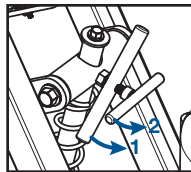
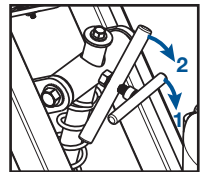

Figure 14
Figure 15
- The angle adjuster has an outer T-bolt for setting a desired blade angle, and an inner jam nut bar for locking the T-bolt in place. To change the blade angle, first loosen the jam nut bar, then loosen the T-bolt (Figure 14). Once these fasteners are loosened, the spring causes the machine to rise up. Keep a hand on the extendable handle to control the rising motion. Press down on the handle to lower the blade angle. To raise the blade angle, allow the spring to raise the machine to the desired angle. Once the desired angle is set, tighten the outer T-bolt, then tighten the inner jam nut bar to lock the T-bolt (Figure 15).